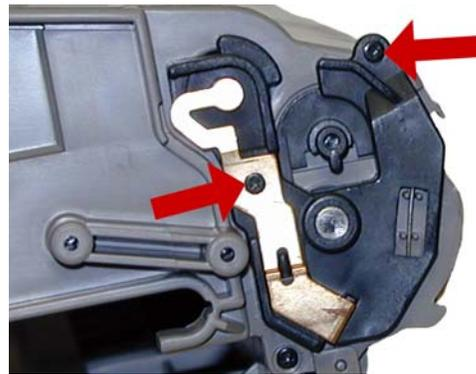

Figure 24
22) Remove the two small Phillips head screws from the black end cap. Remove the end cap. See **Figures 24 & 25**